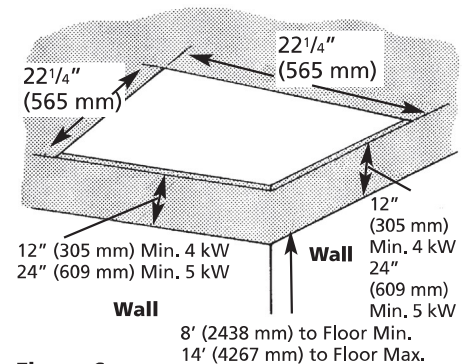

Figure 6
### INSTALLATION OF RECESS MOUNTED HEATERS IN PERMANENT CEILING 2YU36, 2YU37, 2YU39, 2YU41 AND 2YU43 (See Figures 6, 7, 8 and 9, pages 6 and 7)
2. Cut a 22 1/4" x 22 1/4" (565 mm x 565 mm) mounting hole in the ceiling for the recess mounting box (Figure 6).
3. Remove Recess Mounted Heater assembly from carton. Heater assembly includes (1) recess mounting box, (1) heater, (1) recess face plate and (1) set of discharge grilles.
4. Remove recess mount box from assembly. Remove four (4) nuts from studs so heater can be removed from recess mounting box. **Do not discard** nuts since these will be used in Step 13 to mount heater section back on to the recess mounting box.